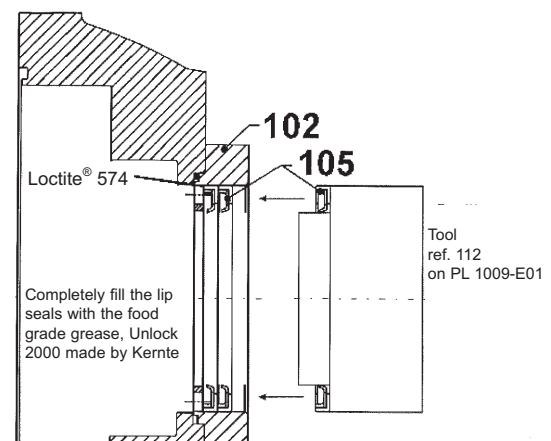

Figure 17
10. Completely fill the lip seals with a food grade grease (such as Unlock 2000 made by Kernte). Make sure that the lips seals are correctly positioned (see figure 17).